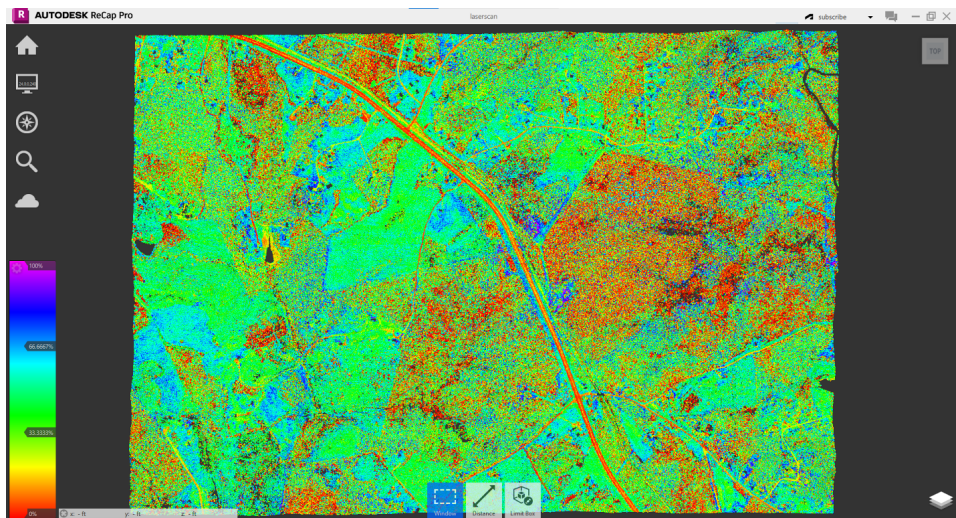

Figure 5.11 – Approximate project boundary location
11. As we look at this dataset, we can see it is covering a large area. It is much larger than our specific project site, so let's dive into reducing the amount of points visible and better zoom into our project site. If we look at *Figure 5.11*, we can get a rough idea of where our project site is.